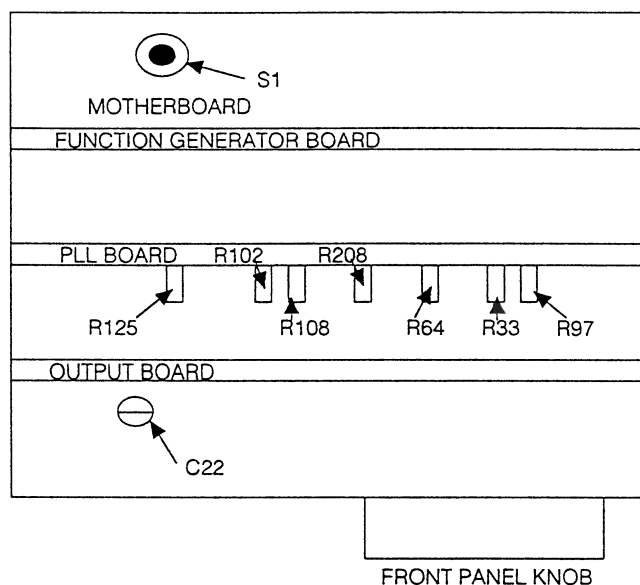

Figure 5-1. Calibration Location
3. Slide the top cover back. Press and hold down the internal calibration switch S1 (figure 5-1) while pressing the front panel CALIBRATE key.
If incorrect, adjust C22 (figure 5-1) until the reading is within specified limits.
3. On the Model 288, slowly adjust the Front Panel Knob (figure 5-1) until the THD as displayed on the distortion analyzer is minimum. Verify that reading is ≤ -50 dB at 10 kHz.
Adjust R33 (figure 5-1) until waveform peaks are clearly visible in the residue.
- If incorrect, adjust R208 (figure 5-1) until reading is within specified limits.
If carrier null is incorrect, adjust R108 (figure 5-1) for minimum indication..